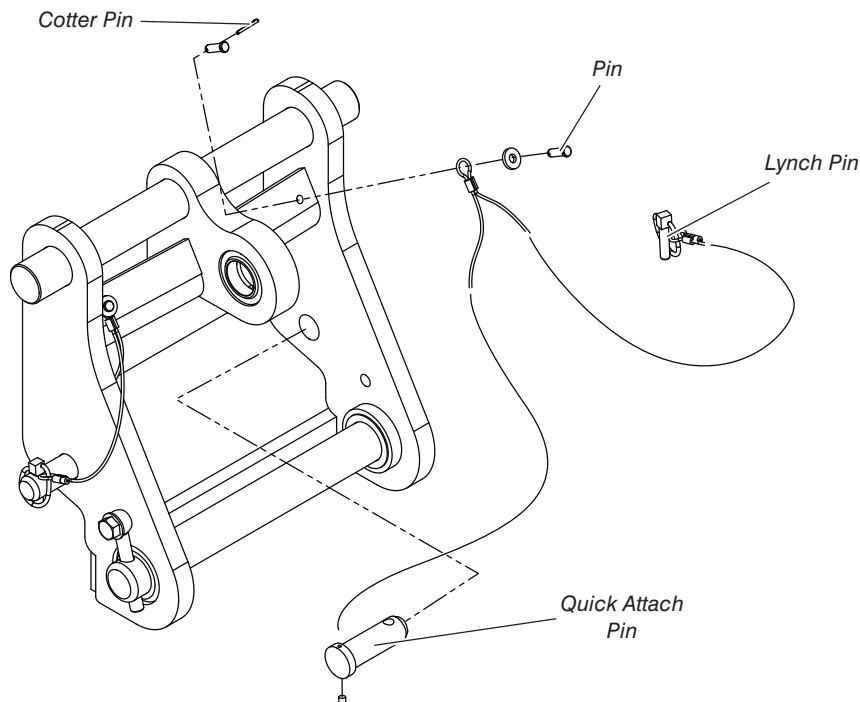

Figure 39 Quick Attach Feature
1. Fasten the tethered pin assemblies to the apron using the pins, washers, and cotter pins (see Figure 39).